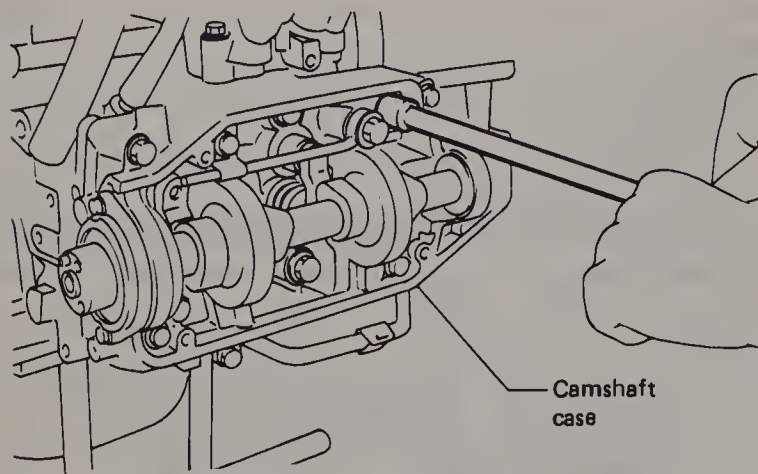

Fig. 13.18 The camshaft case and camshaft come off as an assembly (Sec 5)
- 91 Remove the camshaft case, camshaft support and camshaft as a unit (Fig. 13.18).